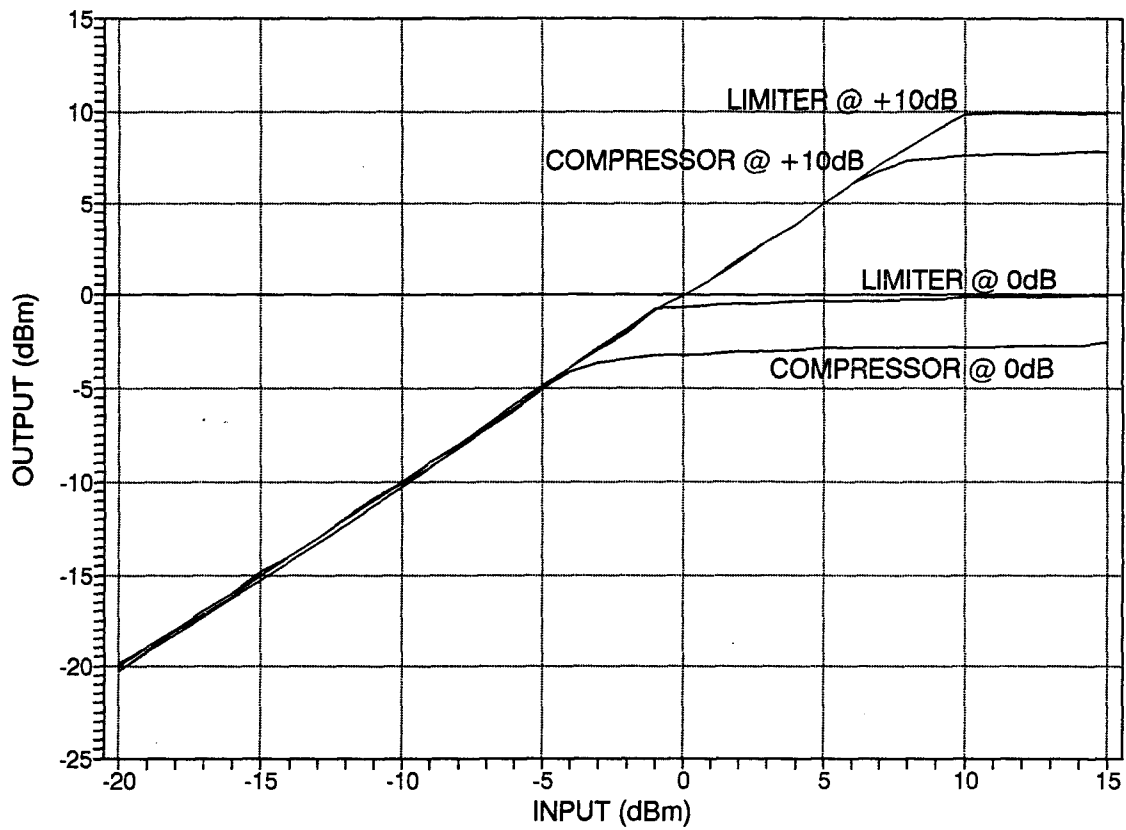

Figure 3
Figure 3 shows the input versus output levels of the compressor and limiter set at (0) and (+)10dB with a slope of 40:1.